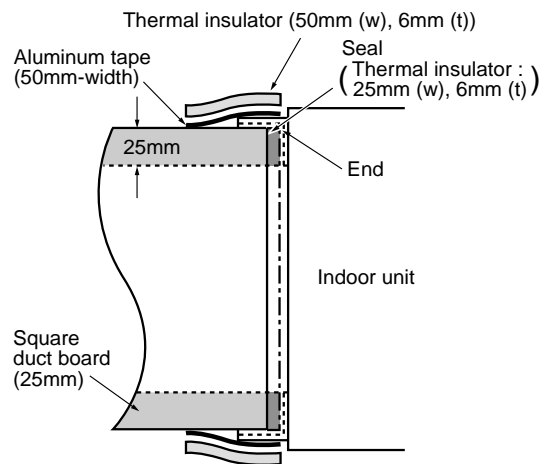

Fig. 3
3. Connect the flange and each type of duct. (Fig. 3)